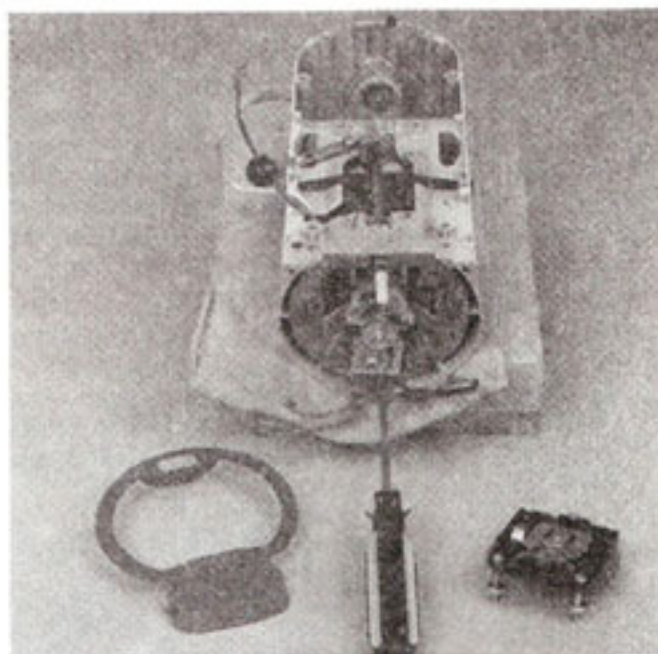

Fig. 49
- N. If the phase control was removed or replaced, make sure the heat sink on the triac unit has sufficient amount of thermal conductive compound applied to that surface before assembling. Place the #4-40 x 1/4" pan head screw through the hole in the triac and screw it into the bearing bracket (Fig. 49) until it is tight (4-5 in. lbs.).